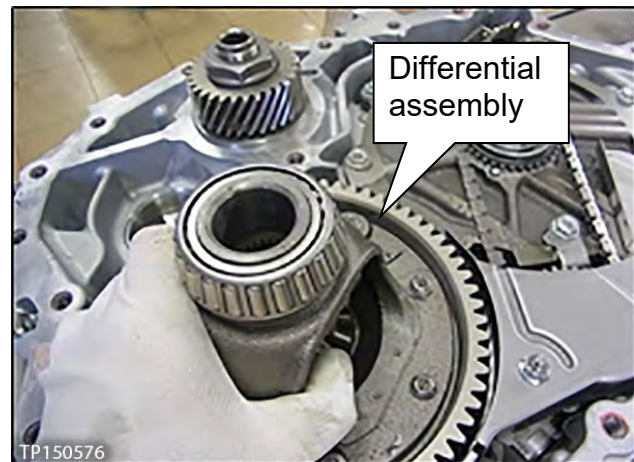

Figure 36
20. Carefully remove the differential assembly (Figure 36).